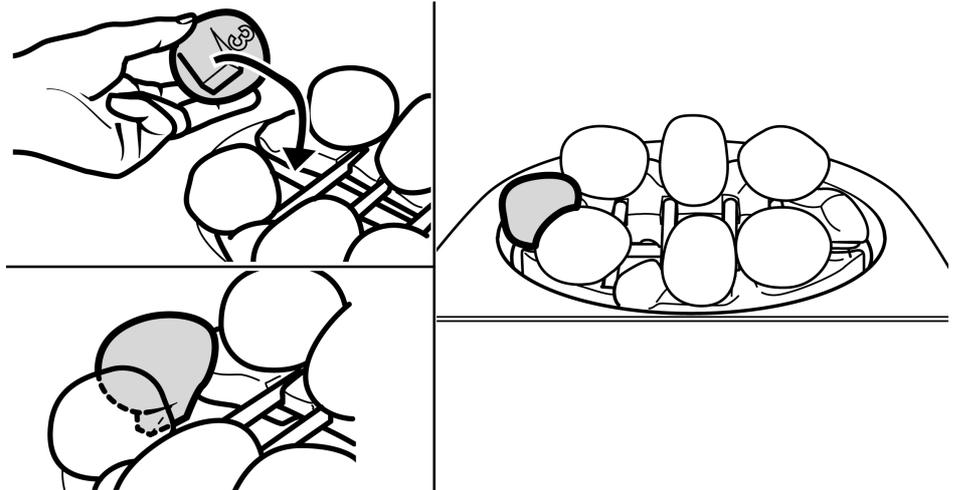

Figure 35 Pebble number '3' Location
6. Pebble '3' has a location peg on the underside. The peg has a chamfer on one side. The chamfer must face the burner. Locate pebble '3' onto the left hand side of the pebble base. It should bridge the gap between the front and rear halves of the pebble base. Pebble '3' should not touch the burner cover (Figure 35).